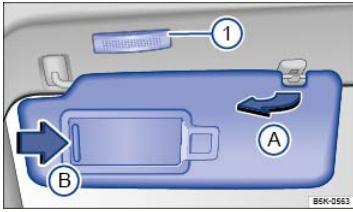

Fig. 88 In the headliner: Sun visor.
- Lift it out of the retaining clip ⇒ Fig. 88(A) and swivel it over toward the door.
A vanity mirror is behind a cover in the sun visor. Your vehicle may also be equipped with a light ⇒ Fig. 88(1) that comes on when you slide the cover (B) open.